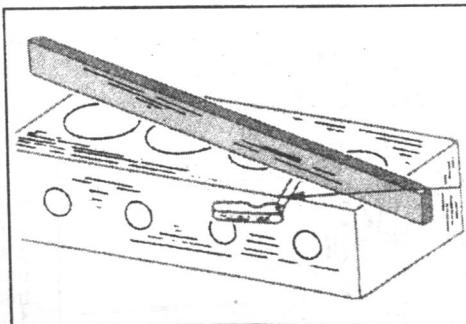

Fig. 1.56. — Checking a cylinder head gasket face for distortion. Check in diagonal and longitudinal direction and across the gasket face.
**Cylinder Head:** Thoroughly clean the cylinder head surface and measure the surface for distortion. To do this, place a fine-edge steel ruler across the cylinder head face as shown in Fig. 1.56 and measure the gap between ruler and head with feeler gauges. If a feeler gauge of more than specified in Section 1.4.0.0. can be inserted, replace the cylinder head. The head can be re-ground as long as the min. height is retained (92.10 mm).